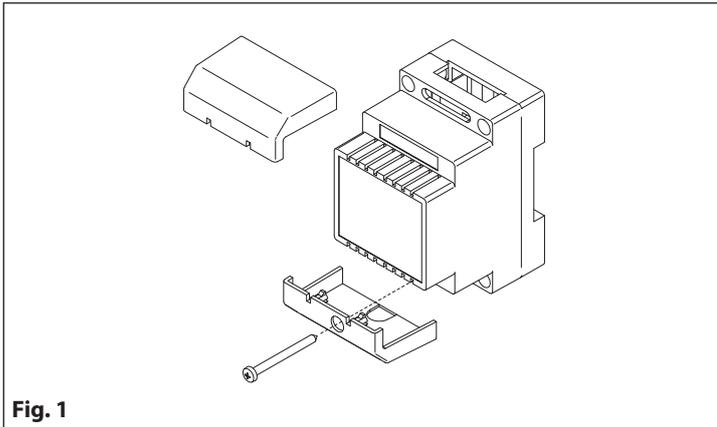

Fig. 1
1. Remove the terminal side covers by unscrewing the retaining screws (**Fig. 1**);